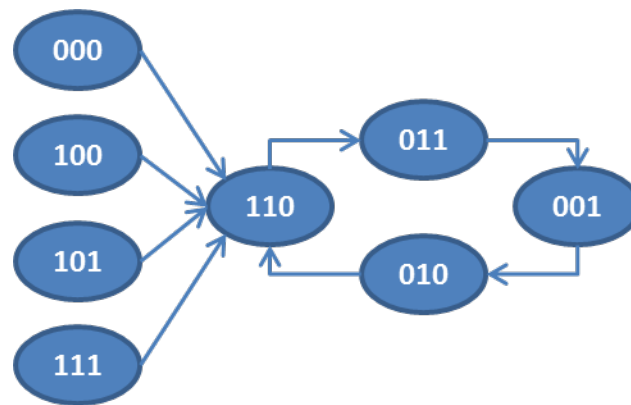

Figure 2. 3-bit state sequencer.
Figure 2 shows the state model of a specific 3-bit sequence generator that operates only in the 001, 010, 110, 011 states. Any of the remaining non-sequenced states (000, 100, 101, 111) should return to 110 so the sequencer can continue to operate within the four sequenced states.
In part 2 you will design and implement the 3-bit state sequencer shown in Figure 2 based on your preparation from the pre-lab.
1. In the Lab 4 Check-off Sheet, sketch a schematic showing all the circuitry needed to implement the 3-bit sequencer from Figure 2. This circuit should be based on your pre-lab preparations and should use DFF's and any necessary basic logic gates (included the 3-input AND, as noted in the pre-lab). As with the 2-bit sequencer, the only external input to this circuit should be a CLK signal.
In Part 2 of the lab, you will design and implement the 3-bit state sequencer shown in Figure 2. Based on the 2-bit example (from Background and earlier pre-lab questions), complete the following steps to design the 3-bit sequencer.
- Complete the next-state excitation table below for the Figure 2 sequencer where Q_2^n Q_1^n Q_0^n are the current states and Q_2^{n+1} Q_1^{n+1} Q_0^{n+1} are the next states.